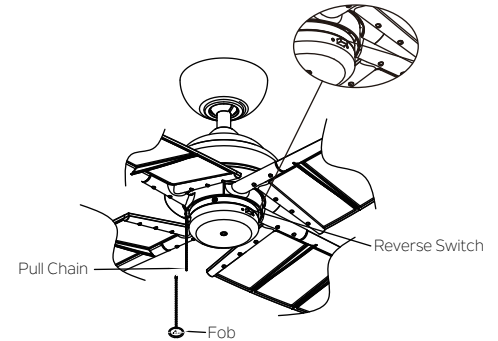

Fig. 19
Step 1. Attach the fob to the pull chain from the switch cover. (Fig.19)